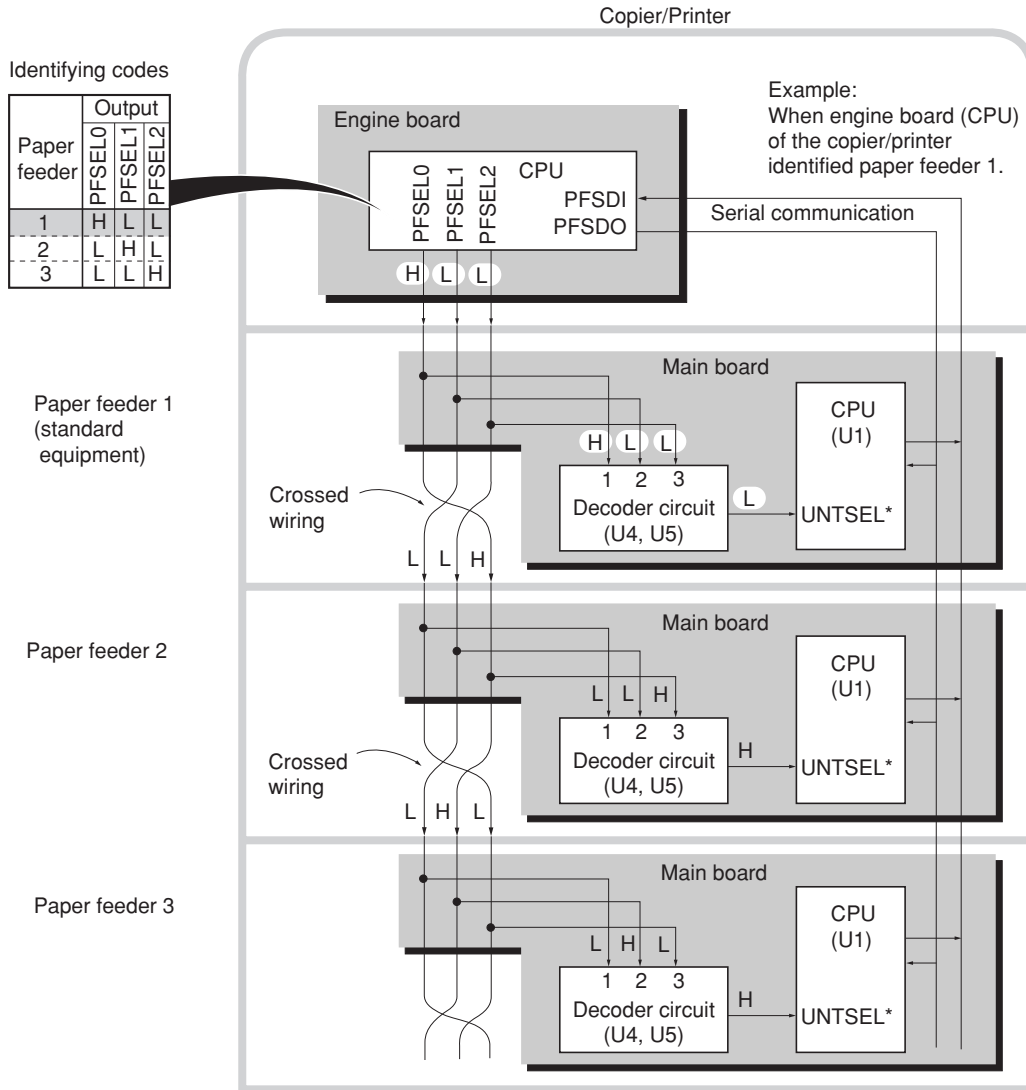

Figure 4-4-9 Paper feeder identifying system
3. The decoder circuit is comprised of gate IC's of U4 and U5. See Figure 4-4-9: It decodes the identifying code signals and generates an L-level signal (UNTSEL*) provided that its ports are in the following condition:
5. The feeder's CPU (U1, in Figure 4-4-9) receives the L-level UNTSEL* signal, acknowledging itself to be the paper source as requested by the engine CPU of the copier/printer. Using the serial communication manner, the feeder's CPU then responds to the engine CPU of the copier/printer with several information on the properties of the paper currently loaded in the paper cassettes.